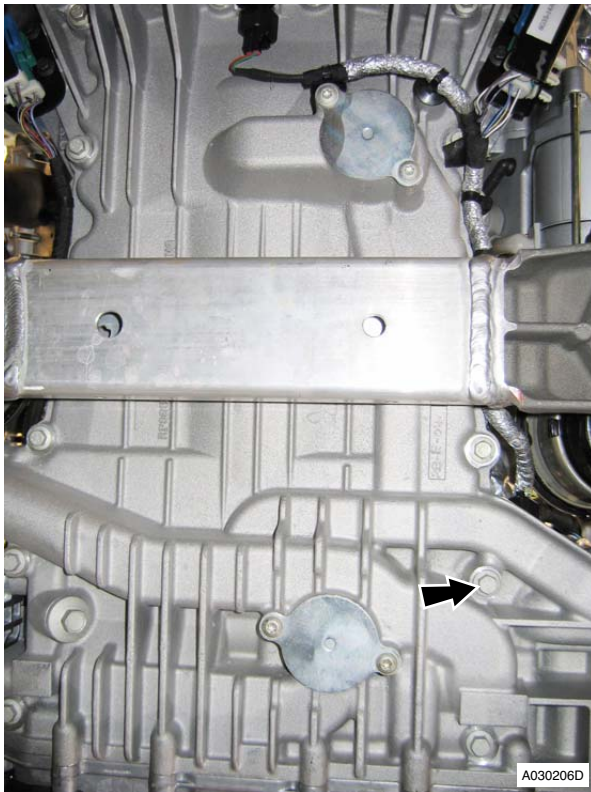

Figure 12
23. Remove bolts (x16) securing sump to engine bedplate (see Figure 12).